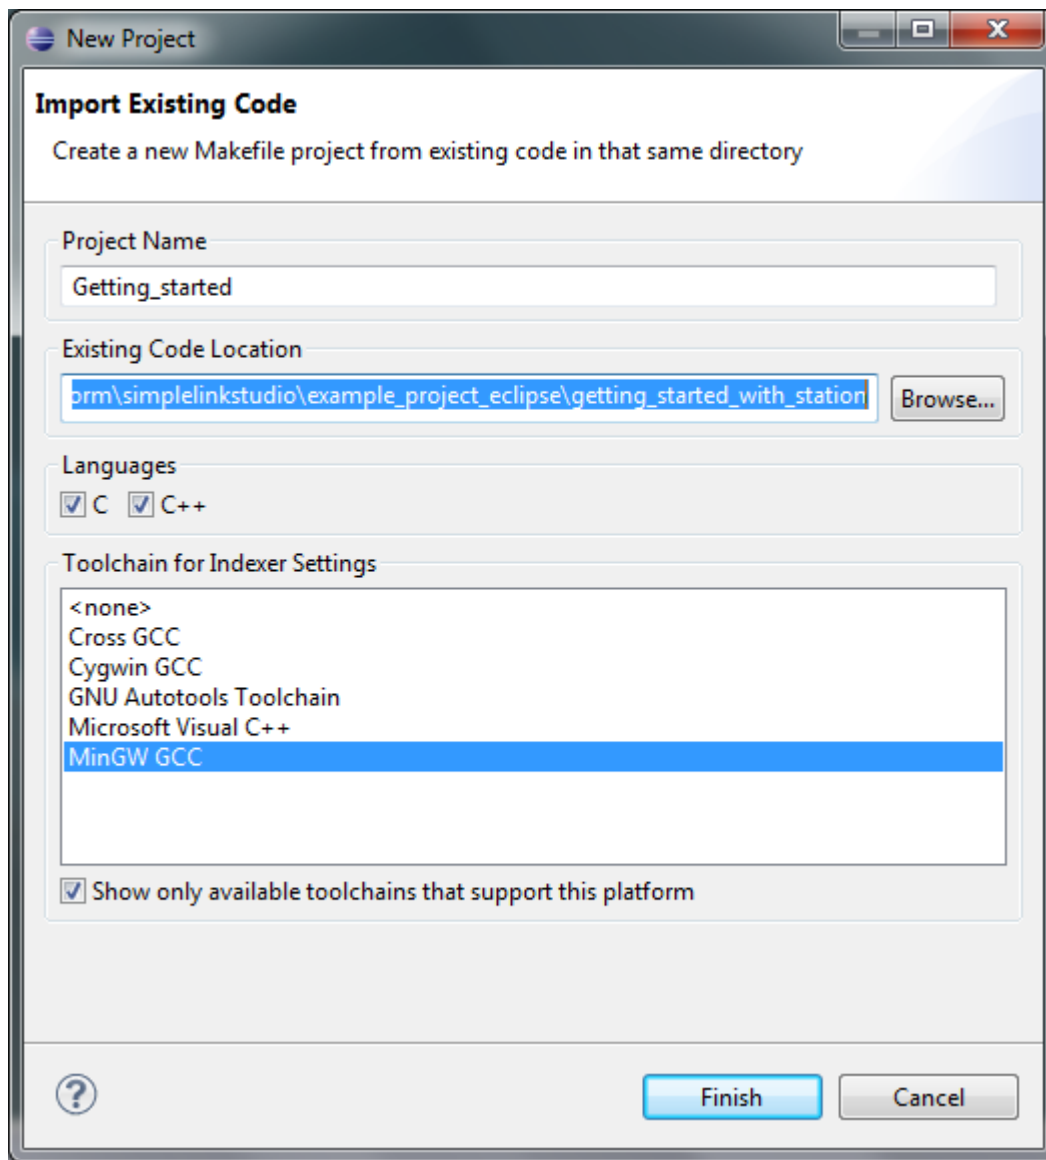

Figure 6. Import Existing Code
10. For Toolchain for indexer settings, choose "MinGW GCC" as shown in Figure 6.